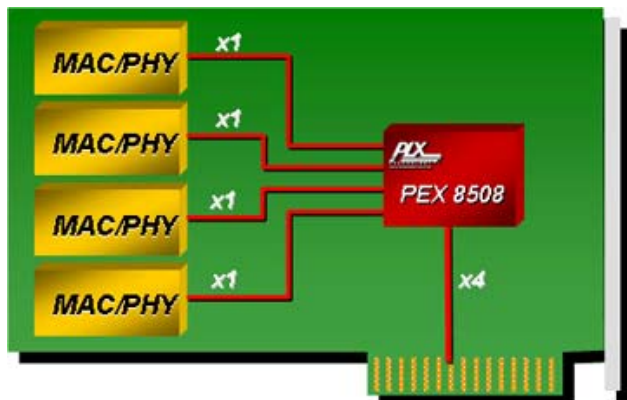

Figure 3. Aggregation Adapter Card
The PEX 8508 can be used to create an **adapter card** that **aggregates** the PCI Express devices into a single port that can be plugged into a **backplane** or a **motherboard**. Figure 3 shows the PEX 8508 in this application.
The adapter card in Figure 3 is transparent with no local processor present. Here four Gigabit Ethernet (GE) ports are aggregated through the switch. Recent MAC/PHY devices for GE all well as InfiniBand, Fibre Channel, etc., have native PCI Express support for direct connections to the switch. The **non-blocking** low latency design of PEX 8508 provides full throughput with **latency under 150ns**.